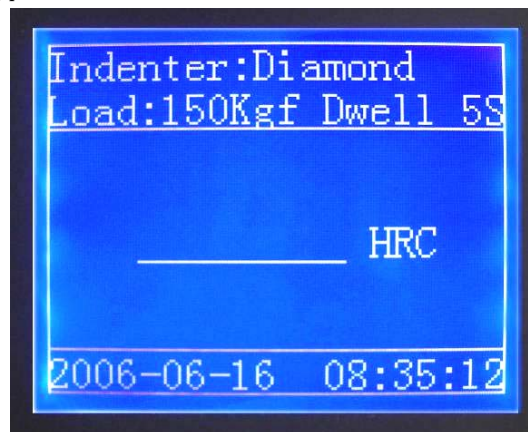

Figure 5.1.1
Connect power supply and turn machine on. The 900-385 will perform a self check and relative information such as type, serial number of the tester, software version will be displayed on screen. Tester will come to main menu after self-checking; current (last used) test parameters will be displayed on screen. Figure 5.1.1 is the typical display of Rockwell C testing parameter; showing the current scale, indenter type, test force, load dwell, as well as current date and time.
Press “Setup” key to return to figure 5.1.1; or press “↶” or “↷” key to reset the other parameters.
5.2.3.5 Press “**Setup**” key to return to figure 5.1.1; or press “ \uparrow ” or “ \downarrow ” key to reset the other parameters.
Press “**Setup**” key to return to figure 5.1.1; or press “ \uparrow ” or “ \downarrow ” key to reset the other parameters.
Press “**Setup**” key to return to figure 5.1.1; or press “” or “” key to reset the other parameters.
Rotate the hand wheel counter-clockwise to lower the anvil, and the test force will be unloaded completely; the screen returns to figure 5.1.1, and all test parameters are stored for the next testing.